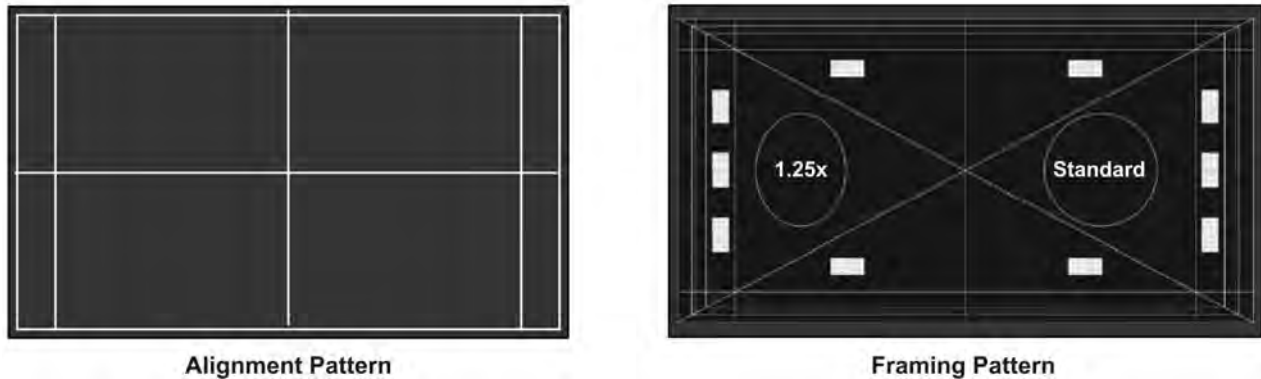

Figure 3-7 Alignment and Framing Pattern
1. Display either the Alignment Pattern or the Framing Pattern. (**Figure 3-7**) **NOTE:** *The framing pattern may not be installed on the projector in some cases. Keep a copy of this pattern on your laptop and load it to the projector you are working on if it is not present.*